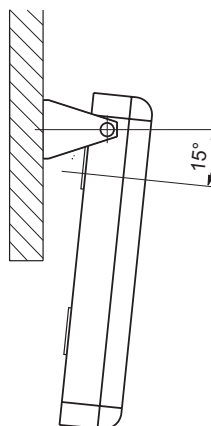

Fig. 4 Panel fixing on a wall
- The sockets serve only to connect the interfaces (Fig. 4)